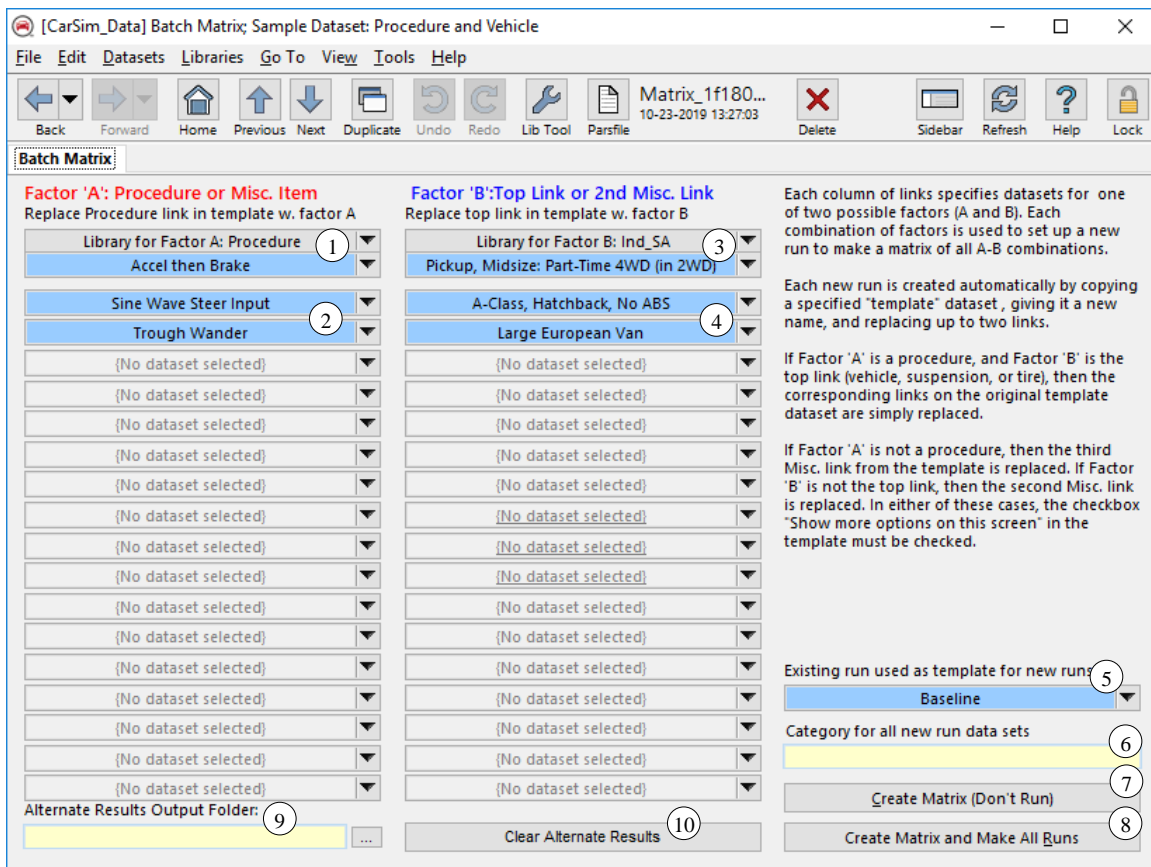

Figure 1. The Batch Matrix tool.
The **Batch Matrix** library (Figure 1) is a tool used to create and possibly execute a set of runs with one button click. This library is accessed via the **Libraries** and **Tools** drop-down menus.
The total number of new **Run Control** datasets created are based on the datasets linked on this screen. For the example shown in Figure 1, each of the three vehicles (④) will be run with each of the three **Procedure** datasets (②), resulting in $3 \times 3 = 9$ new **Run Control** datasets.
① Factor ‘A’ library link to select almost any dataset in the database. This link serves two purposes:
- It defines the first dataset from that library to be used in the Batch Matrix. In the example shown in Figure 1, three datasets have been selected from the **Procedures** library.
② Datasets for Factor ‘A’ ①. Up to 18 datasets can be linked here.
③ Factor ‘B’ library link to select almost any dataset in the database. This link serves two purposes.
- It defines the first dataset from that library to be used in the Batch Matrix. In the example shown in Figure 1, three datasets have been selected from the **Vehicle: Assembly** library.